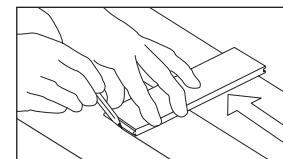

Figure 13
- If the wall is not straight, scribe the first board (Figure 13) as necessary
- Align the first row with the wall using wedges to maintain a 1/2" (13 mm) expansion in place and to stabilize the product. If the wall is not straight, scribe the first board (Figure 13) as necessary to maintain alignment with the chalk line.